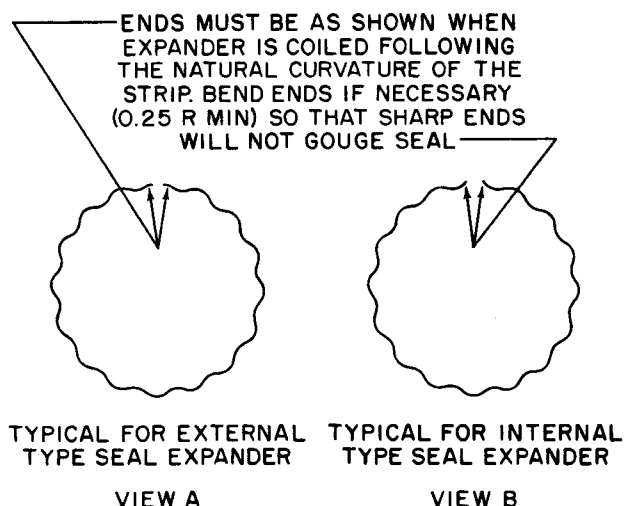

Fig. 6-9. Typical expanders for Teflon seal rings
(1) Coil the expanders as shown in figure 6-9. Inspect the expander ends for curvature toward the bottom of the seal ring grooves (inward for external grooves; outward for internal grooves).
(2) Install the expander into the groove.
(3) Starting at a point opposite the open ends of the expander, install the Teflon seal ring. Do not stretch or deform the seal ring more than absolutely necessary for installation. Work both directions from the starting point until the seal ring is completely installed.